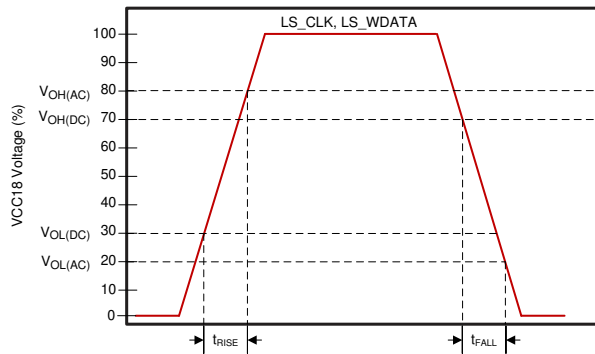
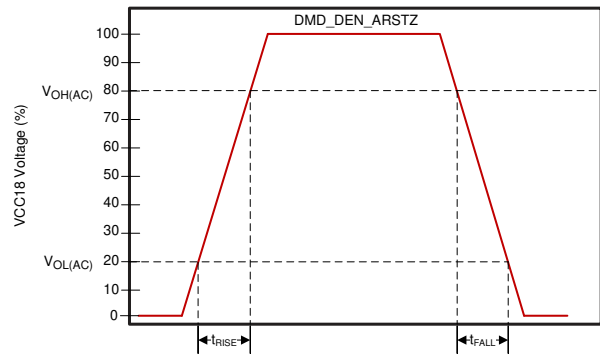

Figure 6-3. LS_CLK and LS_WDATA Slew Rate
Figure 6-4. DMD_DEN_ARSTZ Slew Rate
- (1) $V_{OH(AC)}$ maximum applies to overshoot. When the DMD_LS_WDATA and DMD_LS_CLK lines include a proper 43-Ω series termination resistor, the DMD operates within the LPSDR input AC specifications.
- (2) $V_{OL(AC)}$ minimum applies to undershoot. When the DMD_LS_WDATA and DMD_LS_CLK lines include a proper 43-Ω series termination resistor, the DMD operates within the LPSDR input AC specifications.
- (3) See Figure 6-3 for DMD_LS_CLK, and DMD_LS_WDATA rise and fall times. See Figure 6-4 for DMD_DEN_ARSTZ rise and fall times.